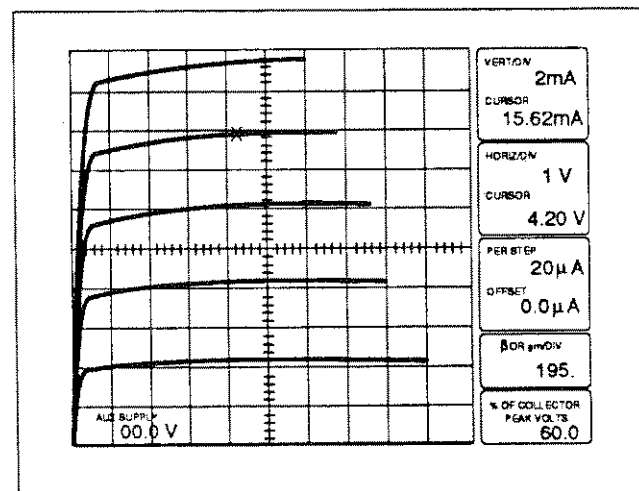

Figure 3-12. Measuring  $h_{FE}$  with the Dot cursor.
37. Use the Position Control buttons to move the cursor to the desired point on the characteristic curve (see Figure 3-12). The figure now displayed in the B OR gm/DIV readout is the  $h_{FE}$  of the device under test.